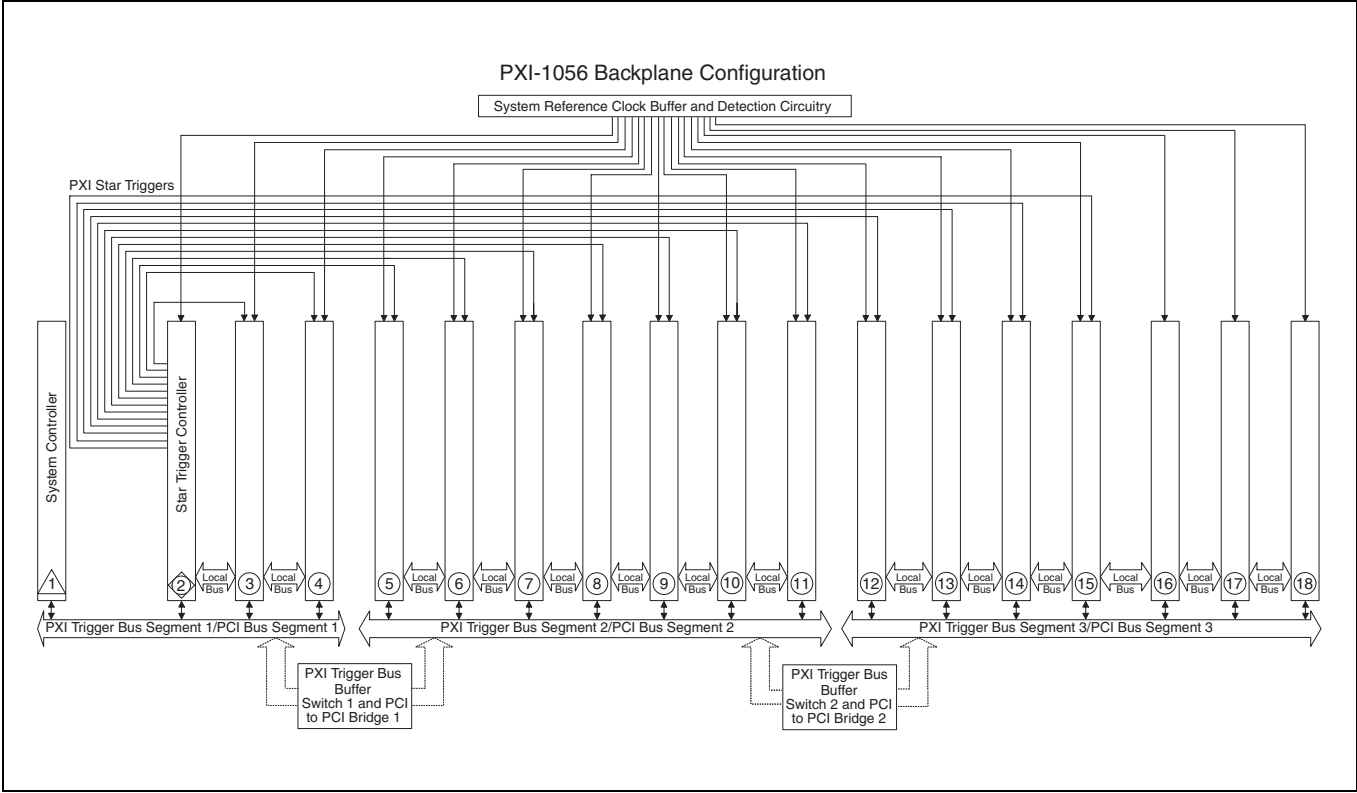

Figure 1-3. PXI CLK_10 and Star Trigger Routing
The star trigger (ST) slot is slot 2. This slot has dedicated equal-length trigger lines between slot 2 and peripheral slots 3 through 15 (refer to Figure 1-3). The PXI Specification defines only 13 star trigger lines; therefore, the last three slots do not receive a star trigger. Slot 2 is intended for modules with ST functionality that can provide individual triggers to all other peripheral modules. However, if you do not require advanced trigger functionality, you can install any standard peripheral module in this slot.
The PXI backplane local bus is a daisy-chained bus that connects each peripheral slot with adjacent peripheral slots (refer to Figure 1-3). For example, slot 2's right local bus connects to slot 3's left local bus, and so on.